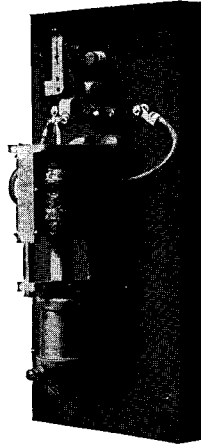

Fig. 15—Type KT Time Limit Accelerating Relay
41. The type KT time limit accelerating relays, with air dashpots, Fig. 15, are used with type F controllers, to change the motor speed after definite intervals of time without reference to the amount of current flowing. They are operated by potential coils controlled from the master switch. These coils should not be operated continuously with a voltage greater than 550 volts alternating current. The time element feature is obtained by means of an air dashpot which can be adjusted by a simple needle valve in its bottom.